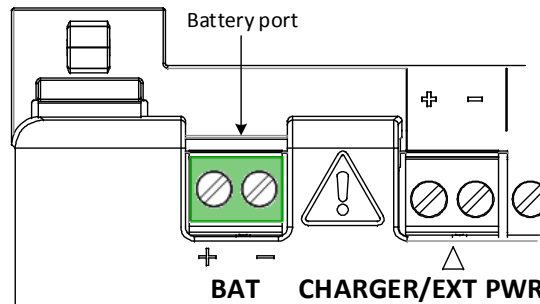

Figure 21: Battery port
7. Connect the battery to the terminals (Figure 21). The power terminal block is green. Observe the polarity (+ and -).